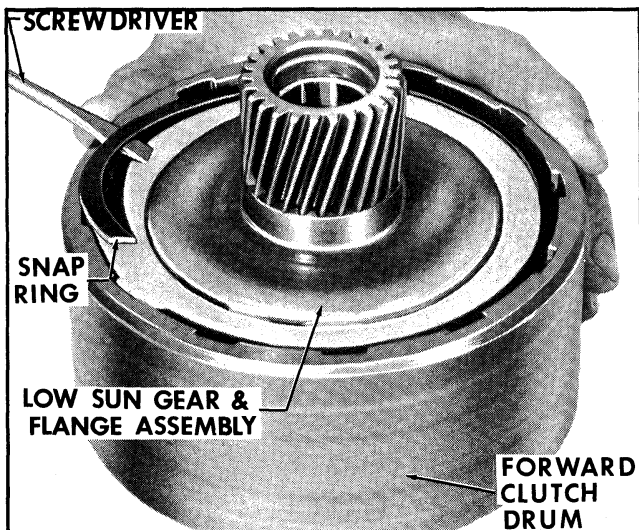

Fig. 7B-57 Removing Low Band and Struts
4. Remove low band and struts from case (Fig. 7B-57).